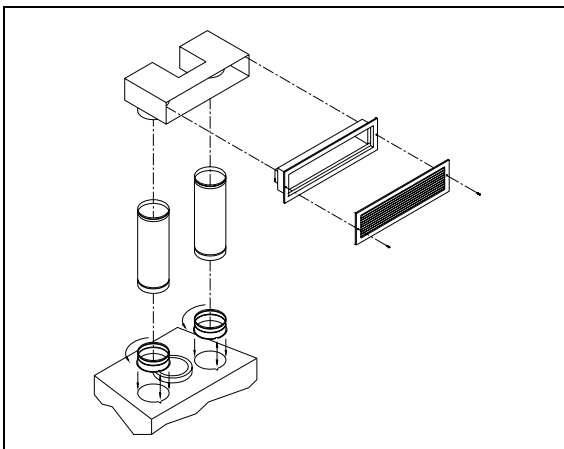

Figure 13
1. Single hot air outlet including: (see Fig.13)
1. Remove the plates closing up the 8" dia. holes on top of the fireplace. Then, cut the insulation in order to obtain two 8" dia. openings. Fix the adaptors on the fireplace openings by turning clockwise (figures 13 and 14).